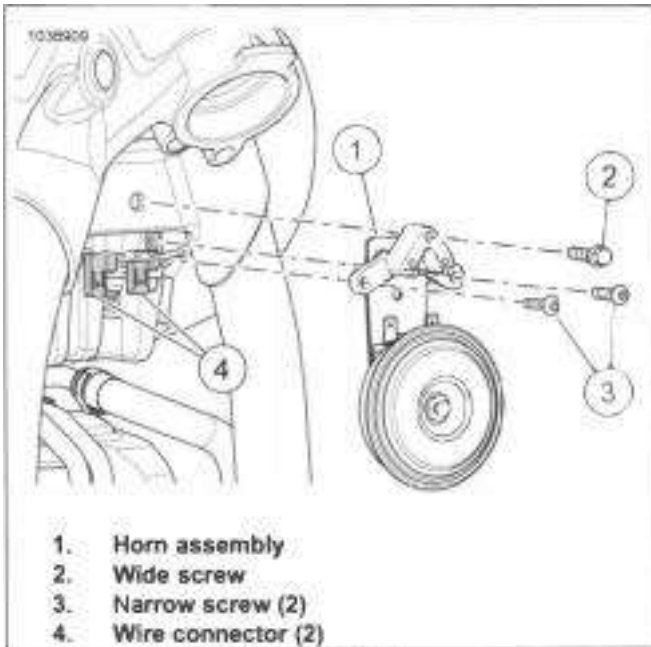

Figure 7-38. Horn
1. See Figure 7-38. Remove horn.
- a. Remove narrow screws (3).
- b. Remove wide screw (2).
- c. Remove horn assembly (1).
- d. Disconnect wire connectors (4).
1. See Figure 7-38. Install horn.
- b. Position horn assembly (1).
- c. Install wide screw (2). Tighten.